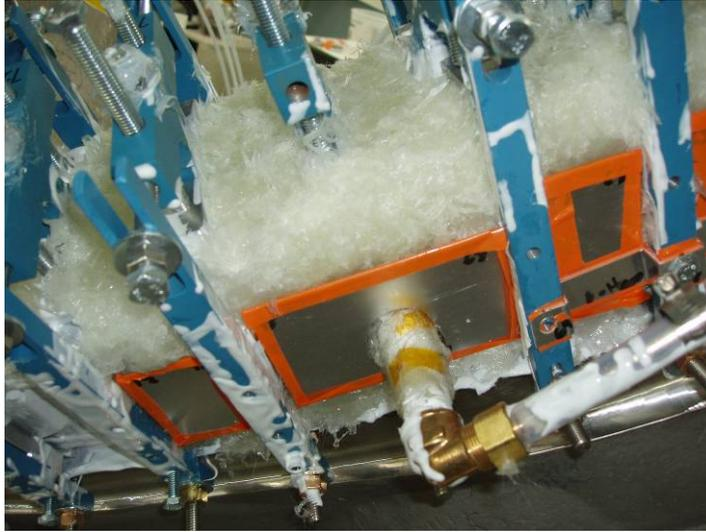

Figure 58- Epoxy/Glass shell
- 6.49.25 Once an area has been completed, install mold released plates over “cotton Candy” and secure in place with stainless steel clips that fasten to the side bars. Continue the application of the “Cotton Candy” until the silicone “Bag Mold” has been fully covered. [Figure 58- Epoxy/Glass shell]